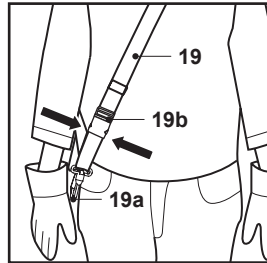

Fig. 16
7. In case of emergency hold the upper pole (10) with the left hand, and use the right hand to press two clips of the quick release (19b). The product together with the securing clip (19a) will be released automatically from the body because of the weight of the product (Fig. 16).